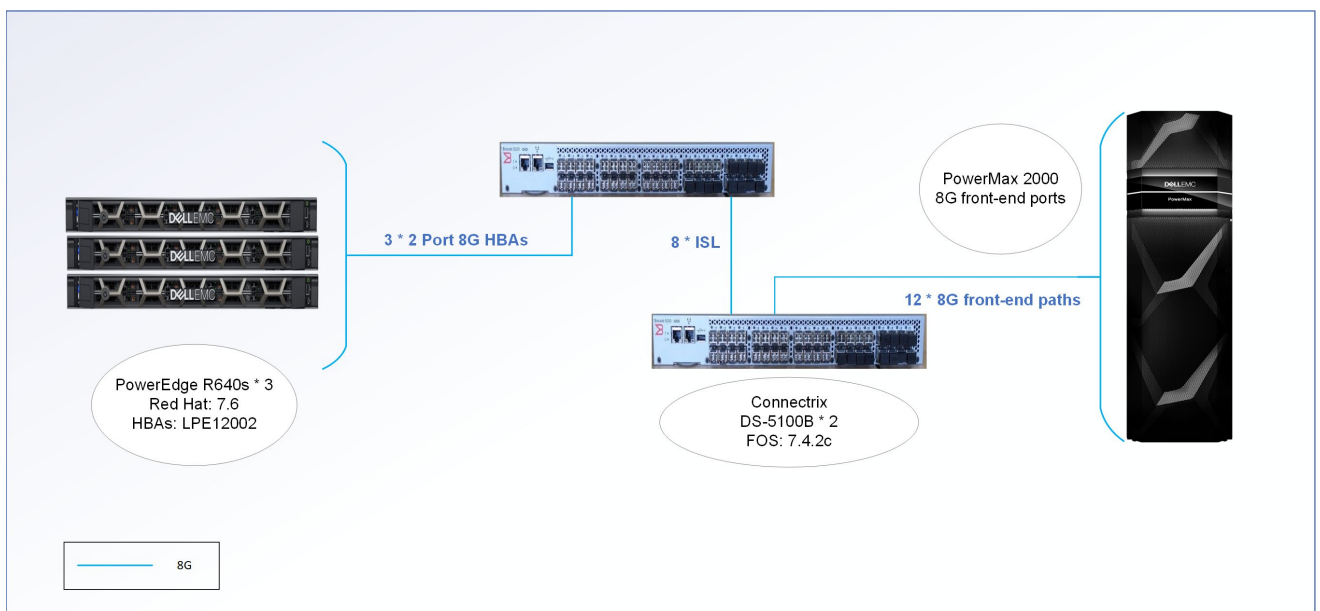

Figure 1 8GFC end-to-end solution
Figure 1 illustrates a typical pre-existing 8GFC solution that consists of Dell PowerEdge servers with Fibre Channel Host Bus Adapter (HBA) ports attached to a two-switch Connectrix 8G Fibre Channel SAN. The HBA ports are running at 8Gb/s, and the Connectrix SAN has 8 x 8 Gbs/sec ISL links between the two switches. The storage is provided by a PowerMax with a Fibre Adapter (FA) front-end port running at 8Gb/s.